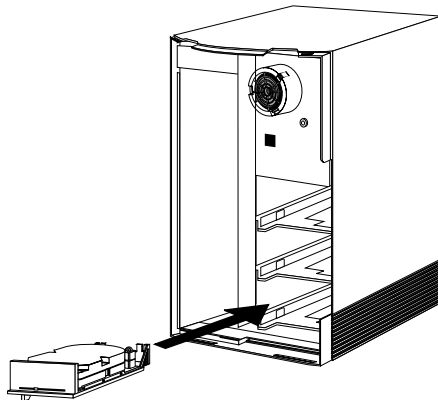

Figure 2-6 Installing the System Disk
- Slide the drive into the slot, making sure that the guides underneath the drive line up with the guides in the chassis, as shown in Figure 2-6. The green lever underneath the drive moves to the right as you do this.